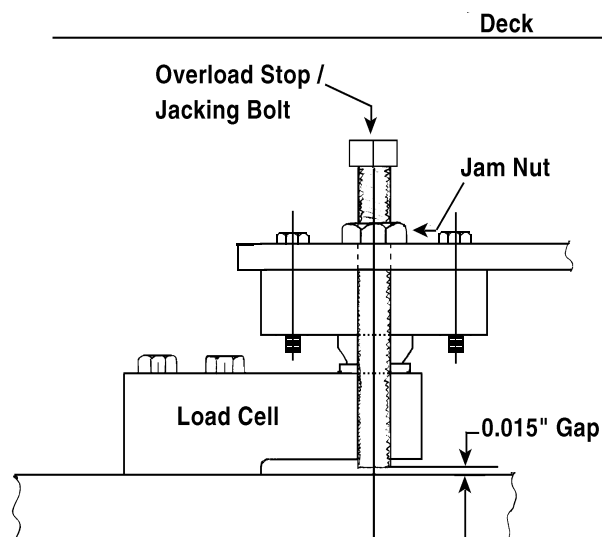

Figure 7-1: Overload Stop/Jacking Bolt
5. If any cell has an unusual signal, remove all load from that cell by using the overload stop/jacking bolt to raise the platform (see Figure 7-1).
- Check the overload stops for proper adjustment (0.015 inch gap) (see Figure 7-1).
5. Unlock the jacking bolt (also used as overload stop bolt) and turn it clockwise to raise the platform corner and remove load from the suspect load cell (see Figure 7-1).